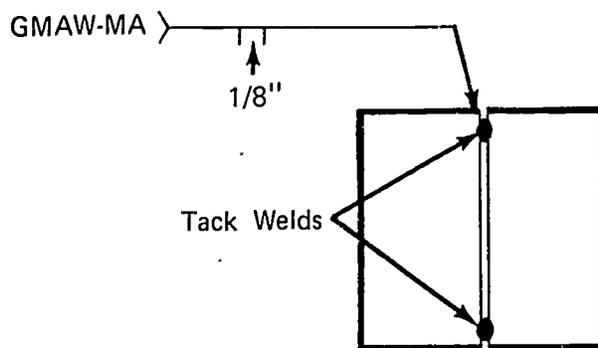

FIGURE 1
- C. Position material to form a butt joint with 1/8" root gap and tack (Figure 1)